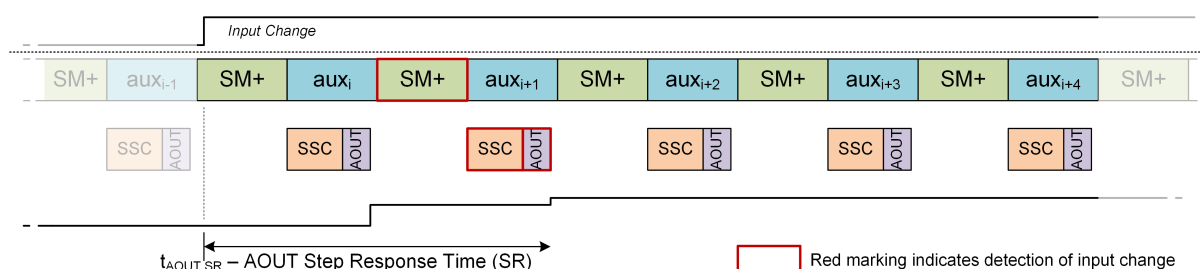

Figure 26: Measurement Flow and Latency for SM+/AZ Configuration
As shown in Figure 26, the worst-case latency consists of:
- SM+/AZ configuration: refer to Figure 26 and description for step response in subsubsection 4.6.4